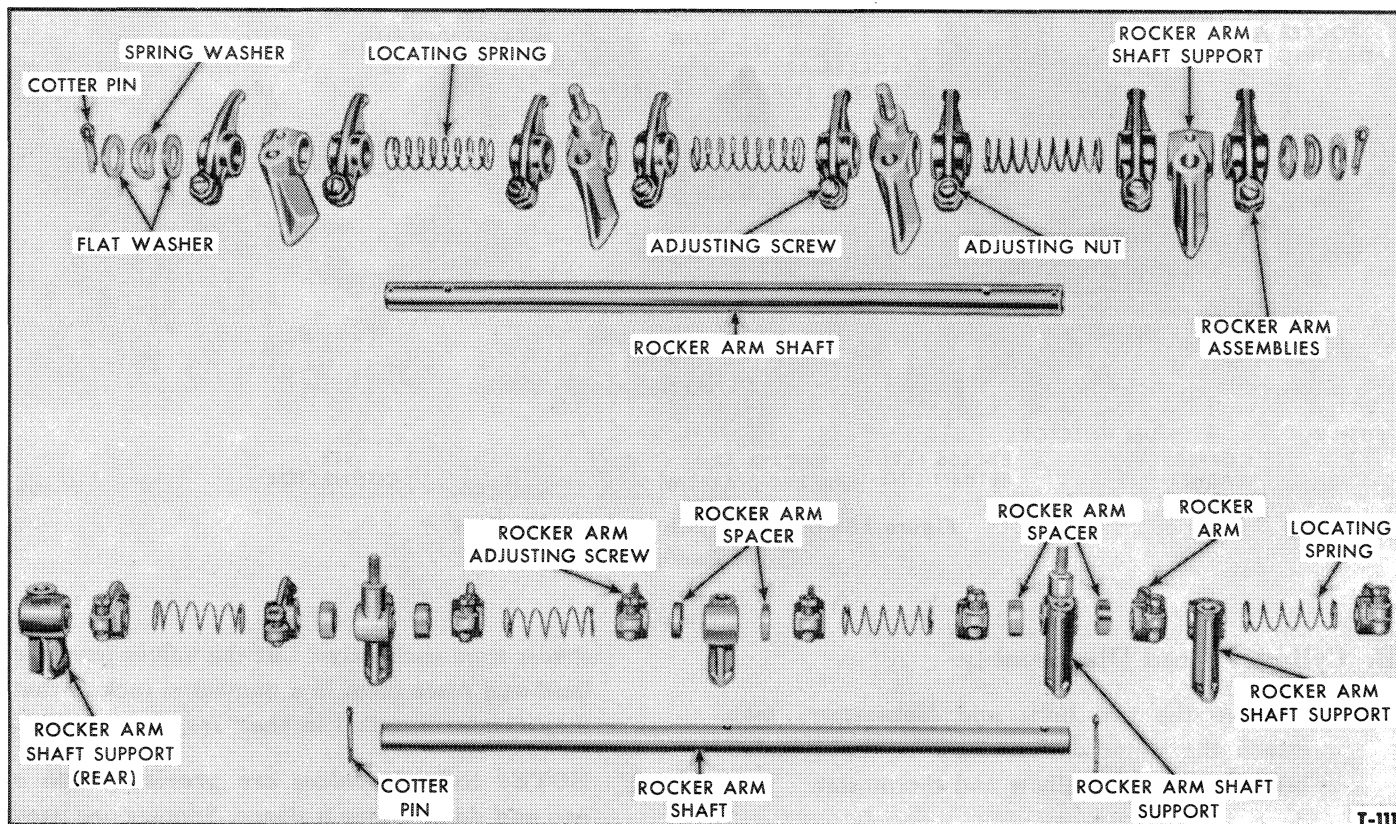

Figure 13—Rocker Shaft Assemblies
3. Remove the cotter pin, flat washers and spring washer from each end of the rocker shaft, Figure 13.
NOTE: *Diesel engines are provided with a rocker arm spacer on each side of No. 2, 3 and 4 rocker shaft supports, Figure 13. The narrower spacers are used at support No. 3.*
3. Assemble the rocker arms, springs and brackets in the sequence shown in Figure 13.
NOTE: Diesel engines use six spacers to locate the rocker arms. Make certain that the two narrower spacers are installed at No. 3 support and the wider spacers are at No. 2 and 4 supports, Figure 13.